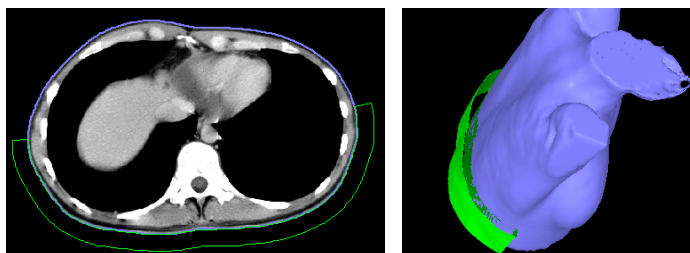

Figure 288 – Generated bolus ROI around the skin surface
5. After the fourth point is defined in the current view, the bolus calculation process starts automatically. The bolus is generated and displayed as contours in the image series and as volume in the 3D view (see Figure 288).